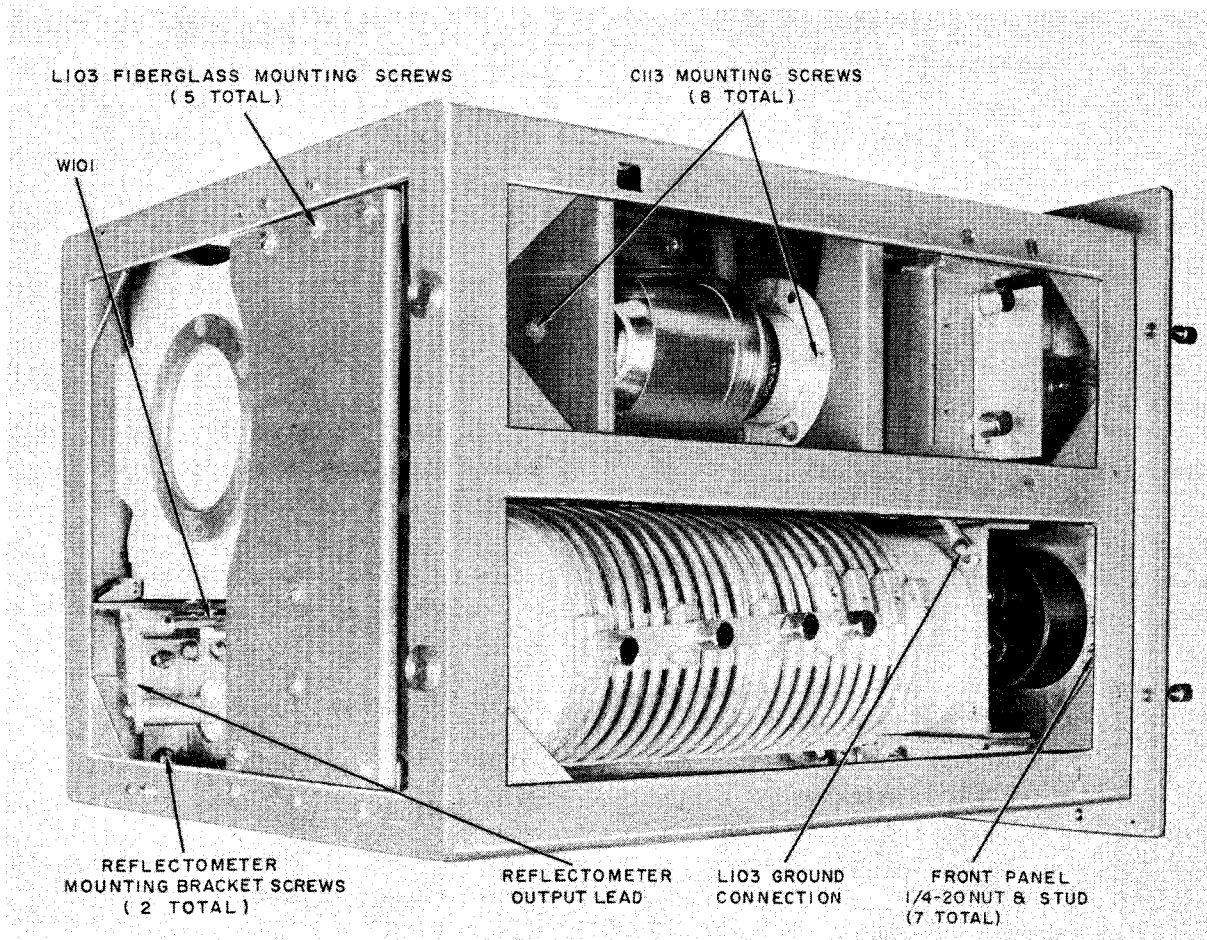

Figure 6-7. RF Tuner, Top View, Removal of Parts
Step 2. At the rear of the reflectometer, disconnect output lead and remove two screws from reflectometer mounting bracket. (See figure 6-7.)
(2) COIL L103. - Remove rear fiberglass mounting bracket (see figure 6-7). Disconnect four coil leads. Remove coil from rear of chassis.
(3) VACUUM CAPACITORS C112 AND C113. - Remove each vacuum capacitor according to the following steps. (See figures 6-7 and 6-8.)
(a) Remove the vacuum capacitor C112 counter according to the following steps. (See figures 6-7, 6-8, and 6-9.)